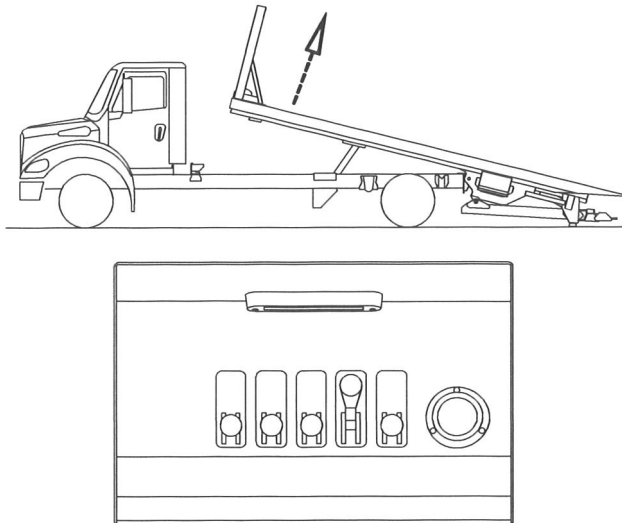

Figure 3.2
- (a) Lifting the "Body Tilt" control raises the front of the carrier up directly off the chassis and positions the unit on an incline. It may be adjusted to any position within its extremities. This part of the hydraulic system is equipped with a hydraulic lock valve as a safety feature. It locks the tilt cylinders in position when the hydraulic system is disengaged. See Figure 3.2.